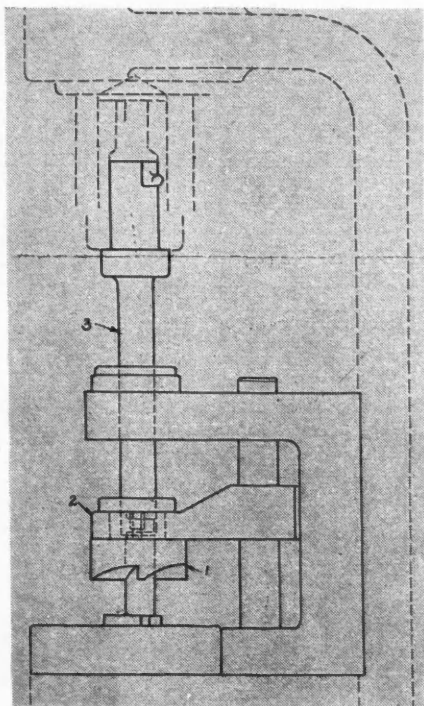

Fig. 5—Line drawing of spot-facing set-up
(Fig. 5) shows the interesting method developed. This fixture is installed on a standard drill press. The cutter (1) is mounted free to rotate in bearing (2). The spring bracket is fitted over the cutter and rests on stops on the table. Then the driving head (3) which has flats to engage in cutter (1) is fed in. As it feeds in it automatically lines up the bracket by piloting through the hole. During the downward movement the driving head engages the cutter and completes the spot facing operation as the head comes to a stop. The driving head is then retracted, the bracket removed and reversed to spot face the other boss. The unique feature of this operation is the way it fits into a comprehensive program for utilizing idle time.